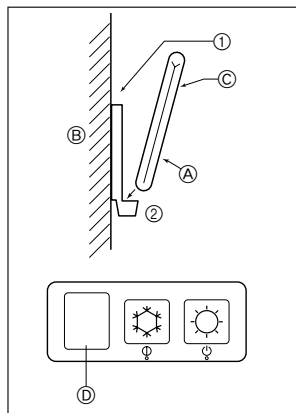

Fig. 6-5
2) Installation method (Fig. 6-5)
① Attach the remote controller holder to the desired location using two tapping screws.
② Place the lower end of the controller into the holder.